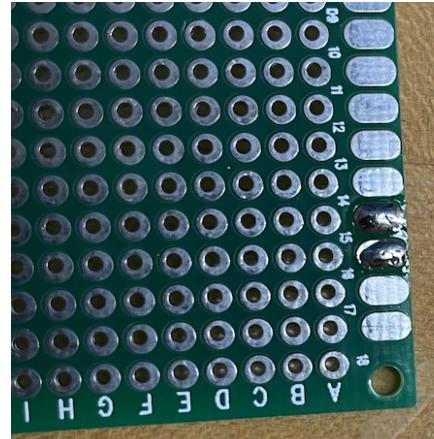

Fig. 2.4 Forming solder blobs on the pads to solder wires onto them next
- I stripped the 16 gauge wires we had a bit longer to twist the ends. Then, I practiced the techniques the YouTuber mentioned with a solderable breadboard (see Fig 2.4) that Wes gave me.